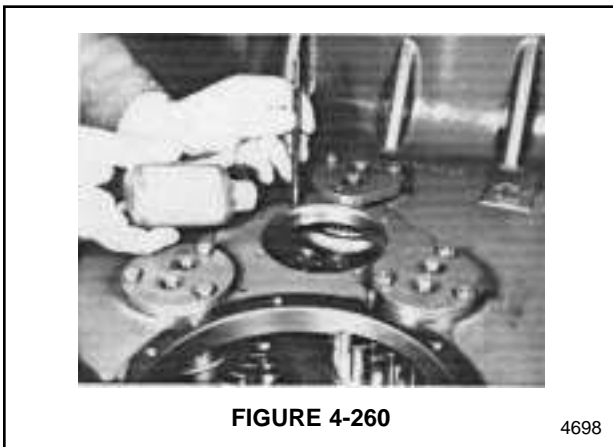

FIGURE 4-260
1. Apply Loctite to the bolts and studs for the steering pump. Install the studs and tighten them. See Figure 4-260.